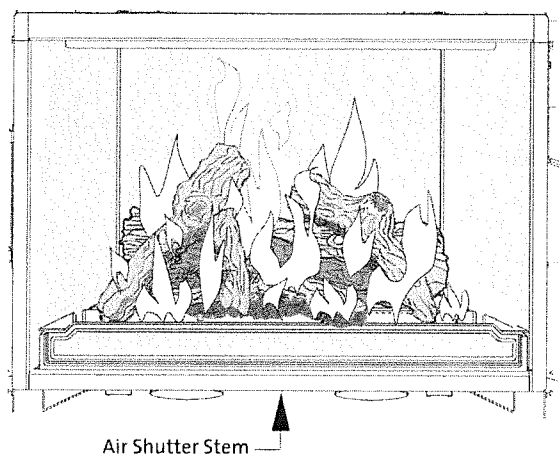

Figure 29. Correct flame pattern at maximum output. Adjust the air shutter if necessary to achieve desired flame pattern.
1. Locate the Air Shutter adjustment stem extending down from the center of the firebox floor. You will not be able to see it, however, you will be able to feel it about 3 inches from the front of the glass frame. See fig. 29.